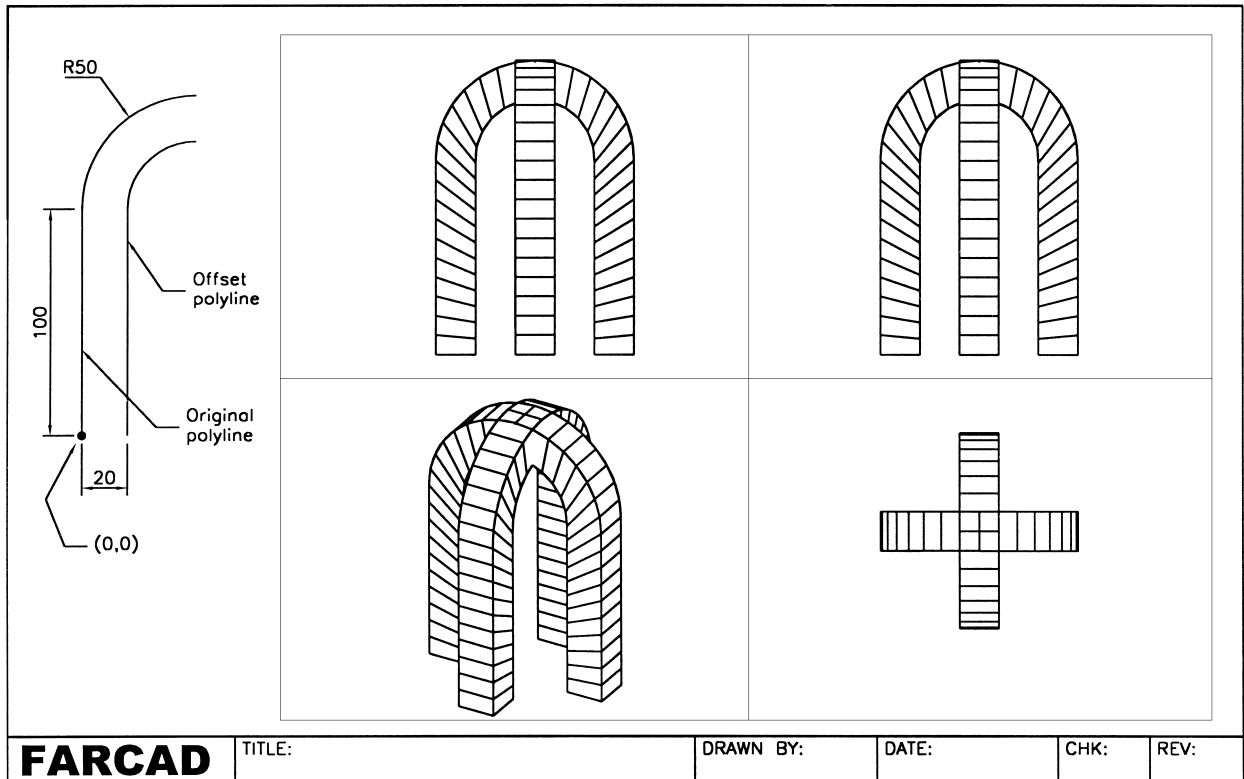

Figure 16.4 Ruled surface example 4 – ARCHES.
- 1 Open your MV3DSTD template file and refer to Fig. 16.4